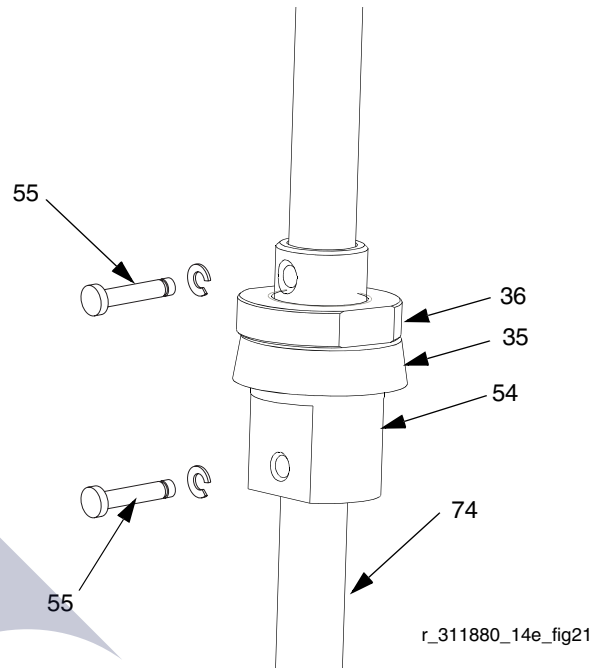

FIG. 21
9. Remove pins (55). See FIG. 21.